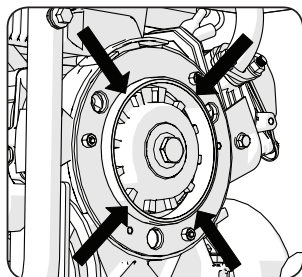

Fig 24
- The male annular ring is located around the engine output shaft. **(Fig. 24)**